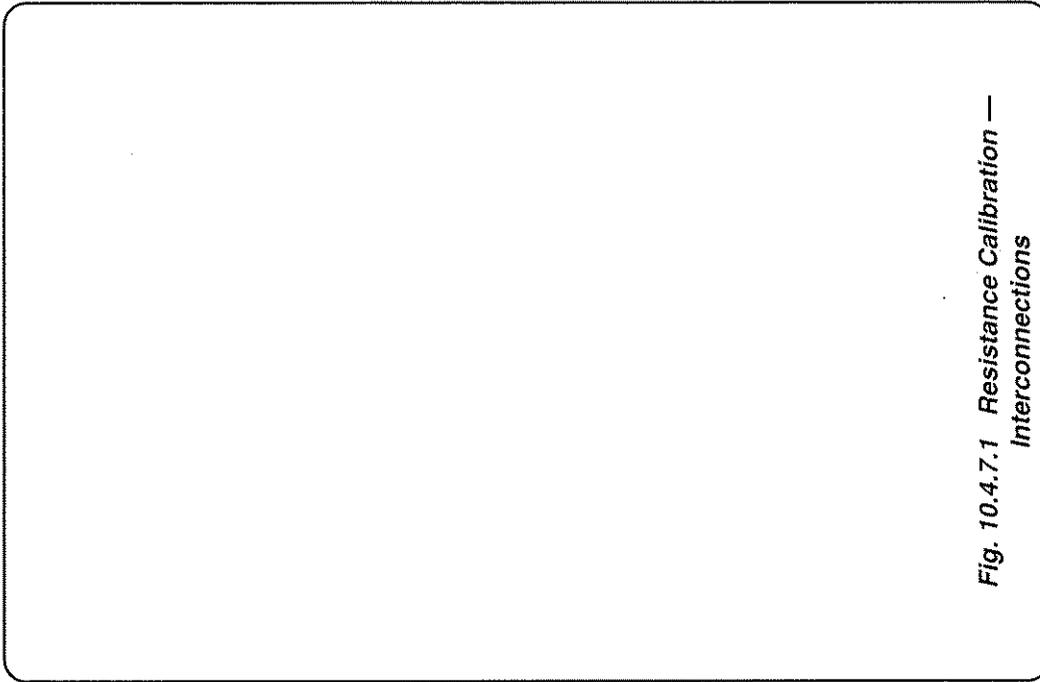

Fig. 10.4.7.1 Resistance Calibration —
1. **Connections** Ensure that the 9100 is connected to the Standards DMM as shown in Fig. 10.4.7.1, and that both instruments are powered on and warmed up.